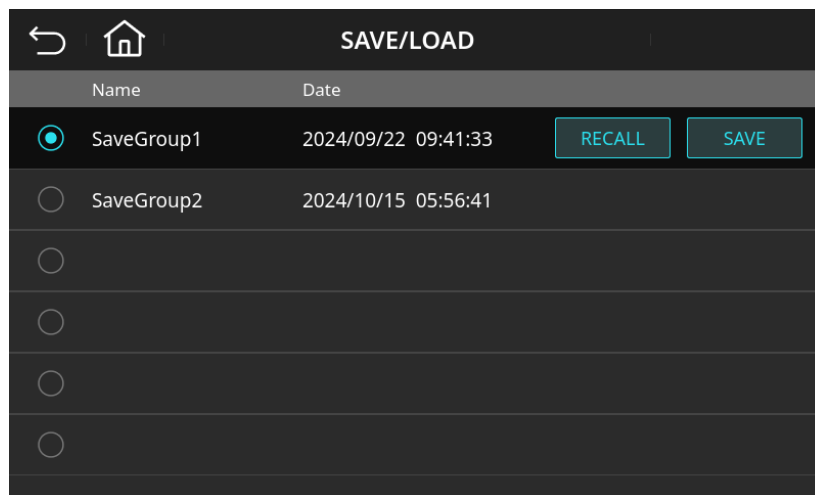

Figure 4-52 System-Wide Parameter Save/Load Page
2. Press **SAVE**, then on the SAVE screen, select **CONFIRM**. The system will store the current system-wide parameters into memory SaveGroup1, as shown in Figure 4-52.